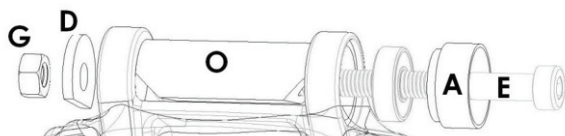

Fig. 8
4. To press new the bearings into the Chain Stay Yoke, you will need to use the C/S Yoke Support (O). Orient the tools as shown in Fig. 8.